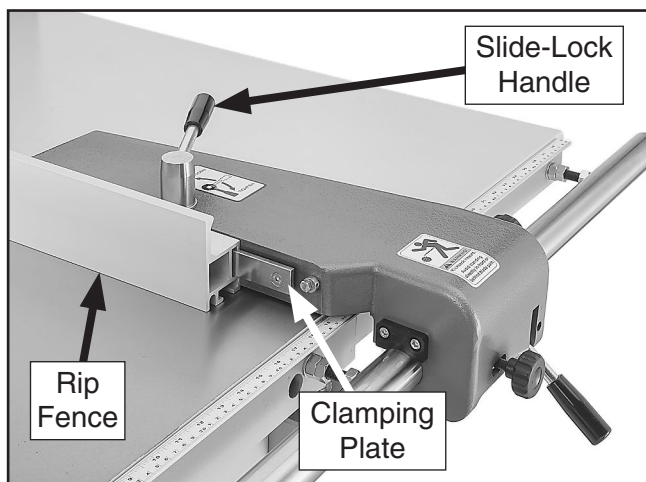

Figure 29. Rip fence attached to rip fence base.
20. Slide rip fence onto clamping plate and lock with slide-lock handle (see **Figure 29**).